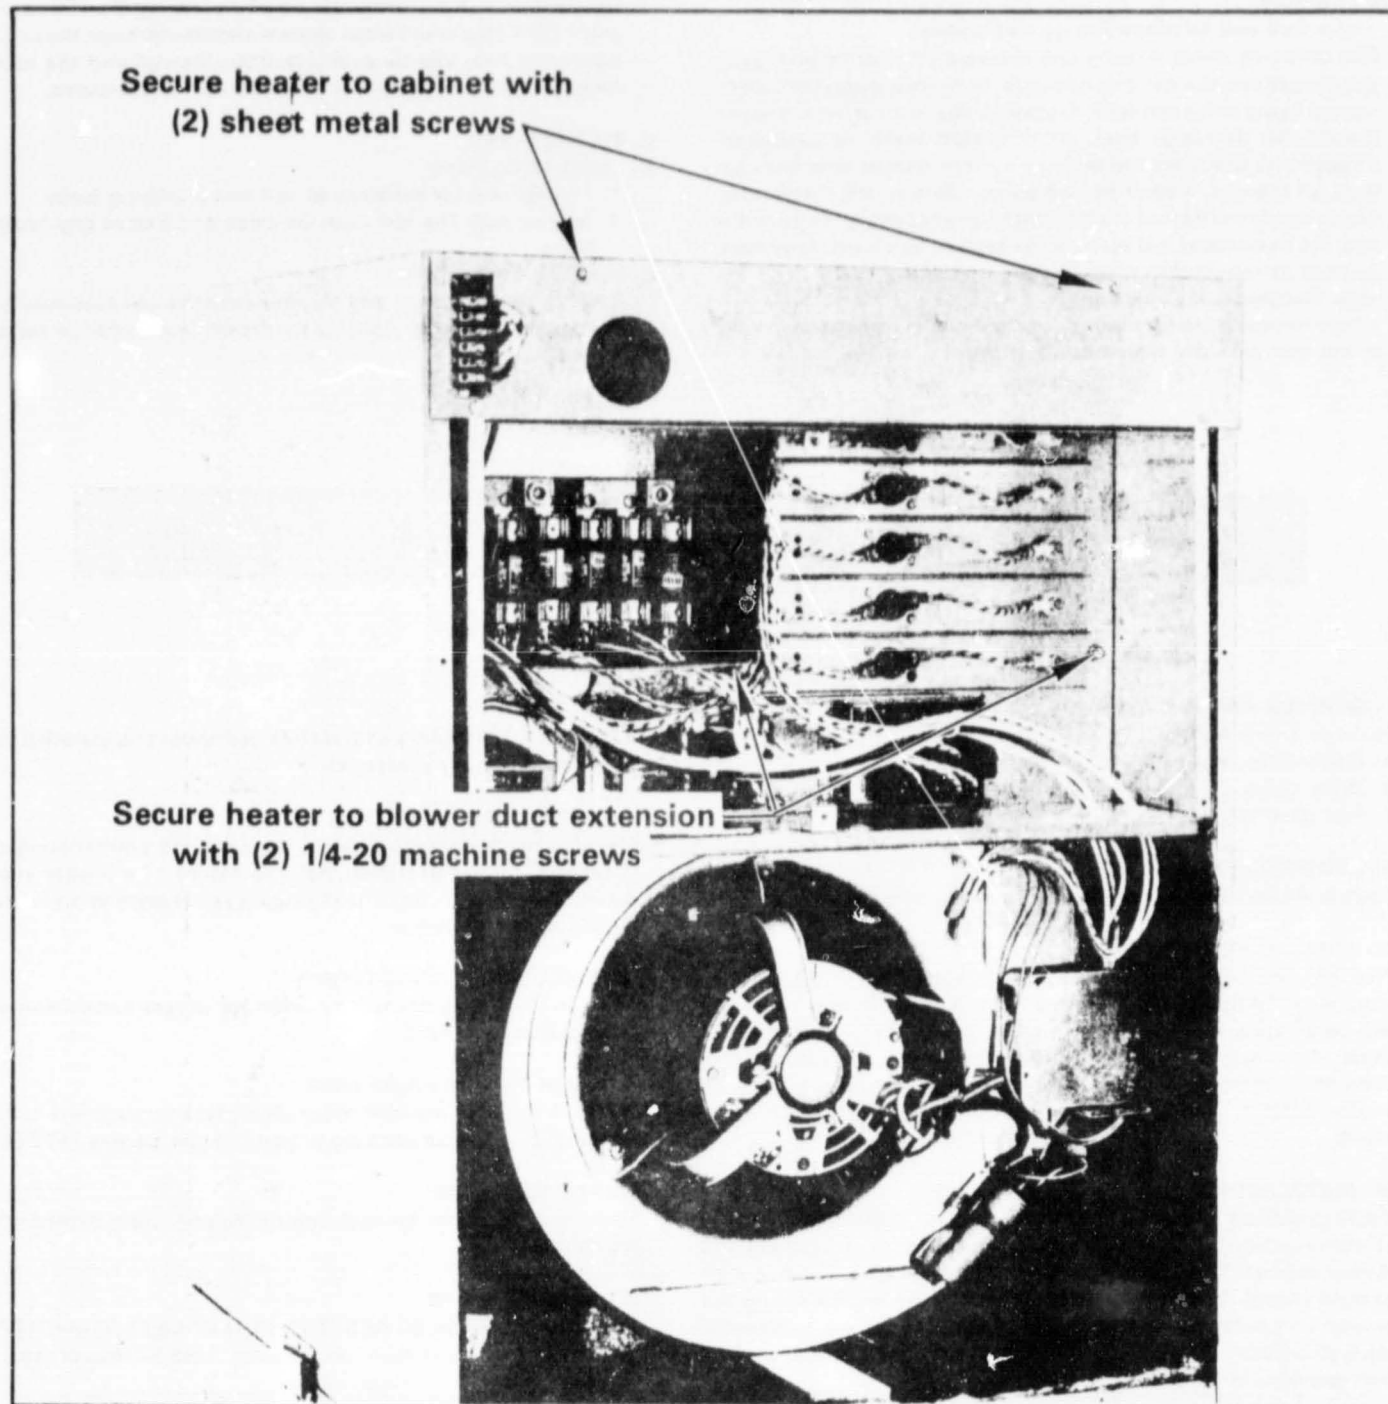

FIGURE 2
- 5 - Secure heater to duct extension with (2) 1/4-20 machine screws and to outside of blower cabinet with (2) sheet metal screws. Use the screws which were removed from blower access panel and duct extension front filler panel. Refer to Figure 2.